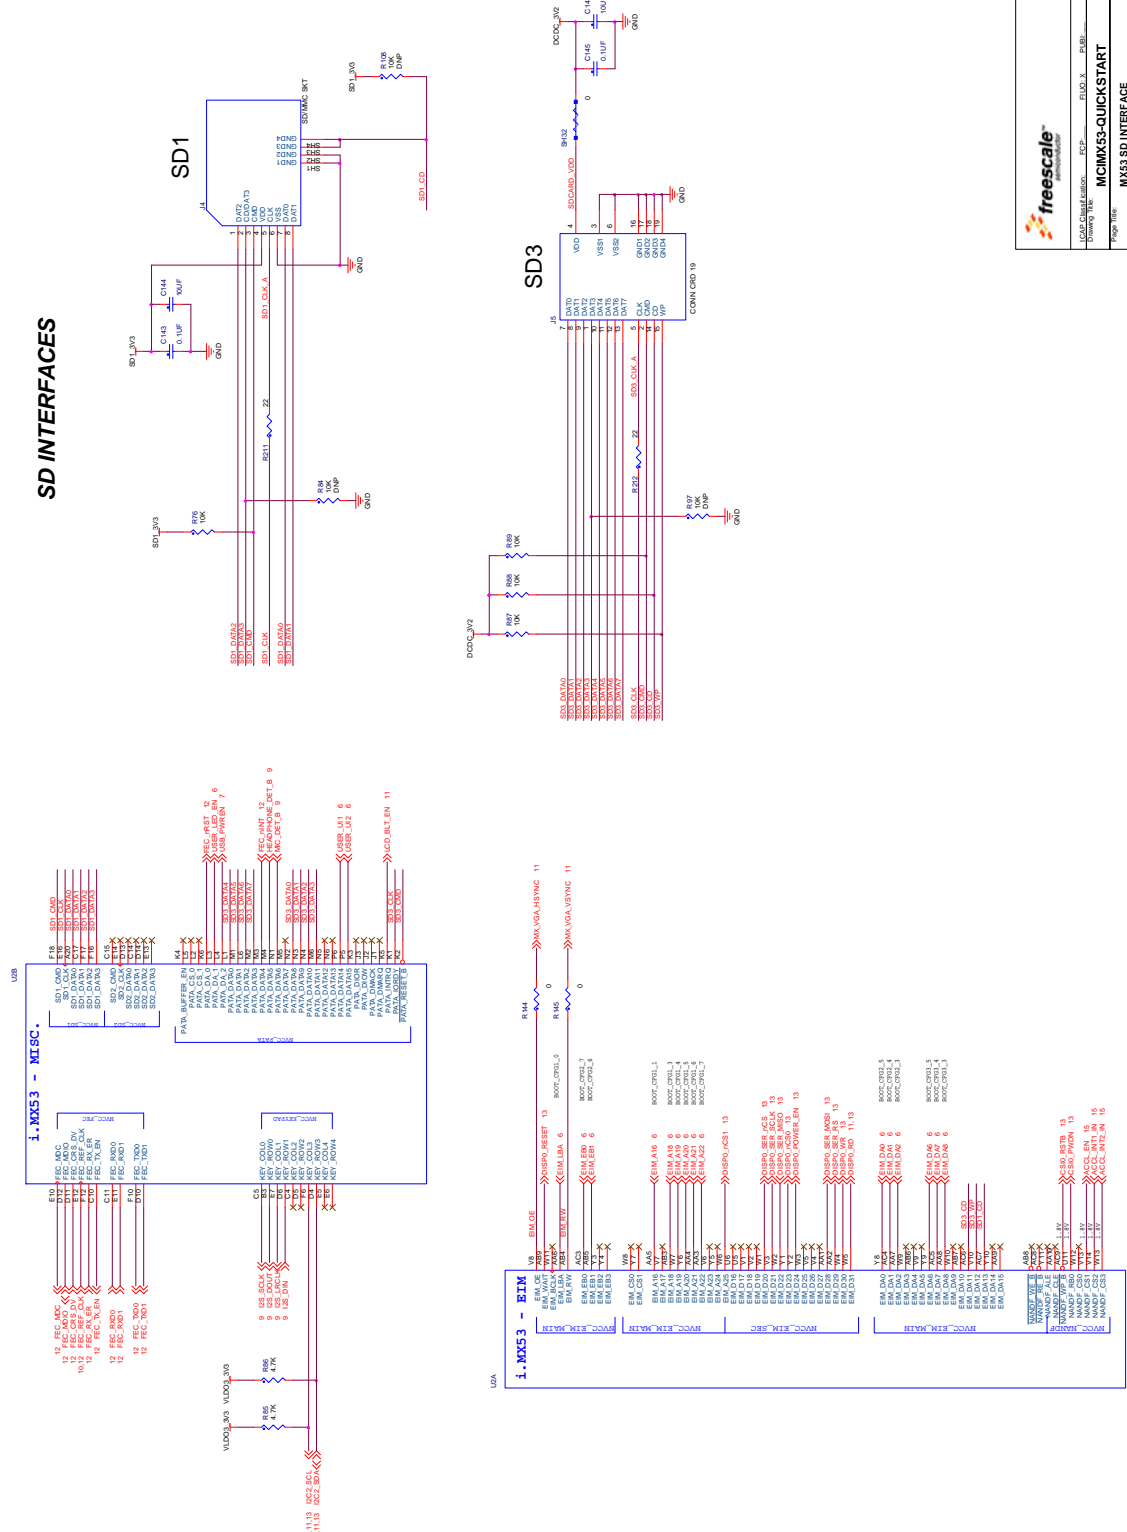

Figure 49. MX53 SD INTERFACE
- Figure 49. MX53 SD INTERFACE